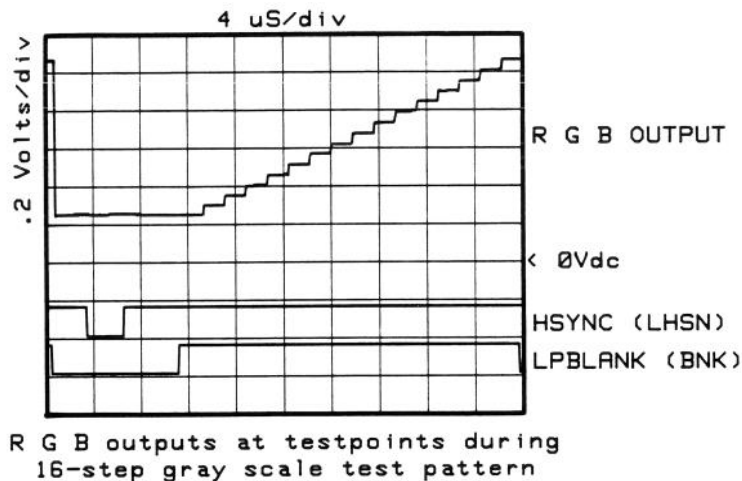

Figure 8-38. 16 Step Gray Scale
5. 16-Step Gray Scale. This pattern is used to verify that the palette chip on the A14 board can produce 16 different amplitudes of color (in this case, gray.) This pattern is also very useful when using an oscilloscope for troubleshooting. The staircase pattern it produces will quickly show missing or stuck data bits. A typical palette chip output is shown in figure 8-38.